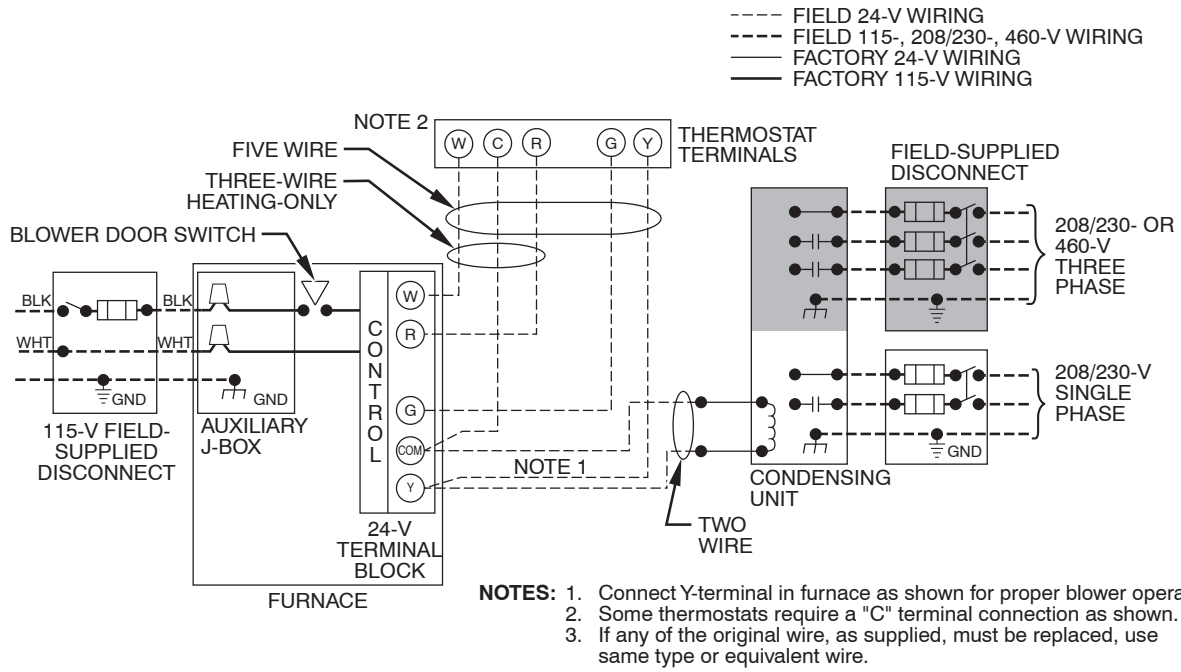
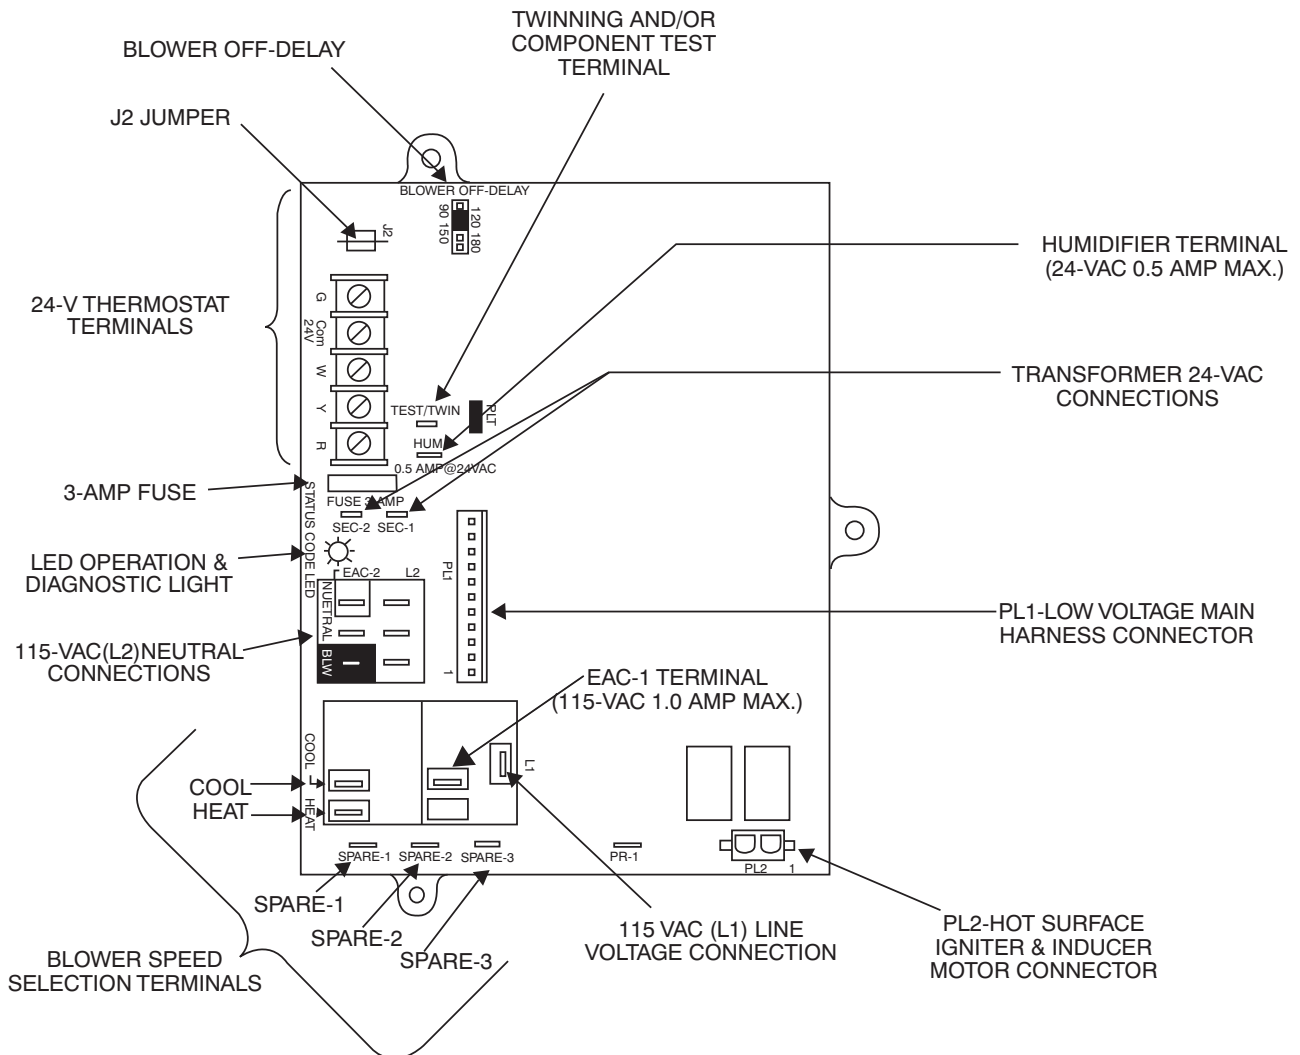

Fig. 38 - Typical Single-Stage Wiring Diagram
Fig. 39 - Example of Single Stage Furnace Control
- Connect power cord power and neutral leads to furnace power leads as shown in Fig. 38.
- Connect field power and neutral leads to furnace power leads as shown in Fig. 38.
Make field 24-v connections at the 24-v terminal strip. See Fig. 39. Connect terminal Y as shown in Fig. 38 for proper cooling
The 24-v circuit contains an automotive-type, 3-amp. fuse located on the control. Any direct shorts during installation, service, or maintenance could cause this fuse to blow. If fuse replacement is required, use ONLY a 3-amp. fuse of identical size. See Fig. 39.